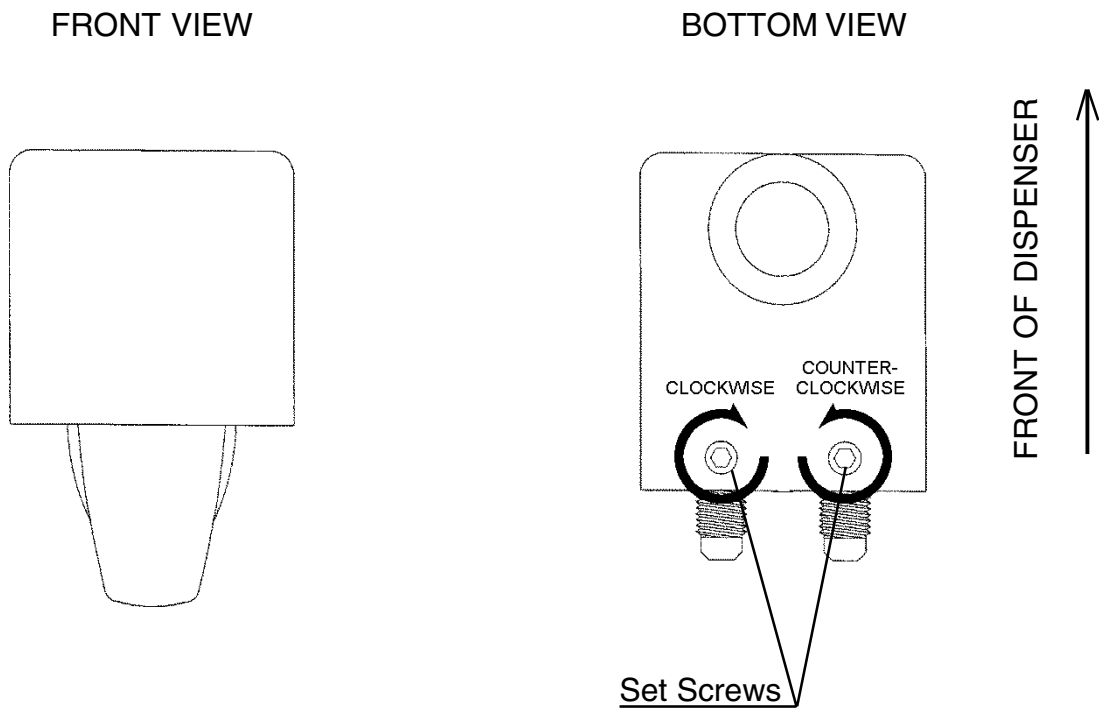

Fig. 6
8. ADJUSTMENT OF WATER DISPENSE VALVE - See Fig. 6
- 1) Locate the two adjustment set screws on the bottom of the Water Valve as shown in Fig. 6.
- 2) Using a 5/32" allen wrench, turn both set screws clockwise for a slower flow rate or counterclockwise for a faster flow rate. See Fig. 6.